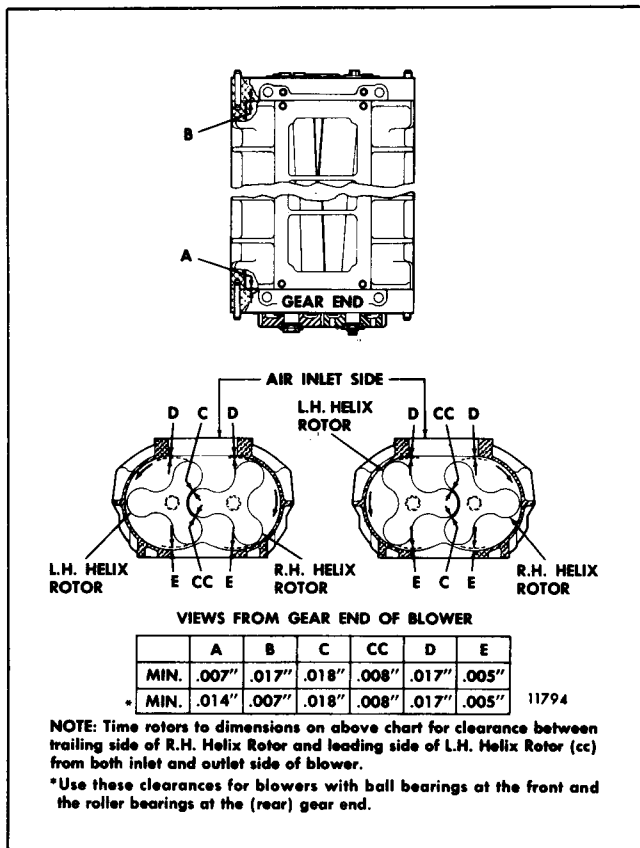
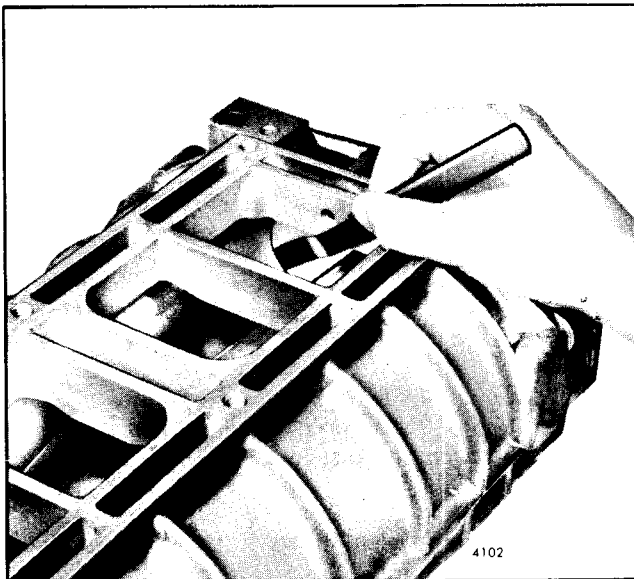

Fig. 19 - Chart of Minimum Blower Clearances
Fig. 21 - Measuring End Clearance Between Blower Rotors and End Plate
11. Place the blower assembly on a bench and make a preliminary check of the rotor-to-end plate and rotor-to-housing clearances at this time with a feeler gage as shown in Fig. 21. Refer to Fig. 19 for minimum blower clearances.
8. Determine the minimum clearances at points "A" and "B" shown in Fig. 19. Insert the feeler gages, as shown in Fig. 21, between the end plates and the ends of the rotors. This operation must be performed at the ends of each lobe, making 12 measurements in all. Refer to Fig. 19 for the minimum clearances.
9. Check the clearance between each rotor lobe and the blower housing at both the inlet and outlet side -- 12 measurements in all. Refer to Fig. 19 for the minimum clearances.